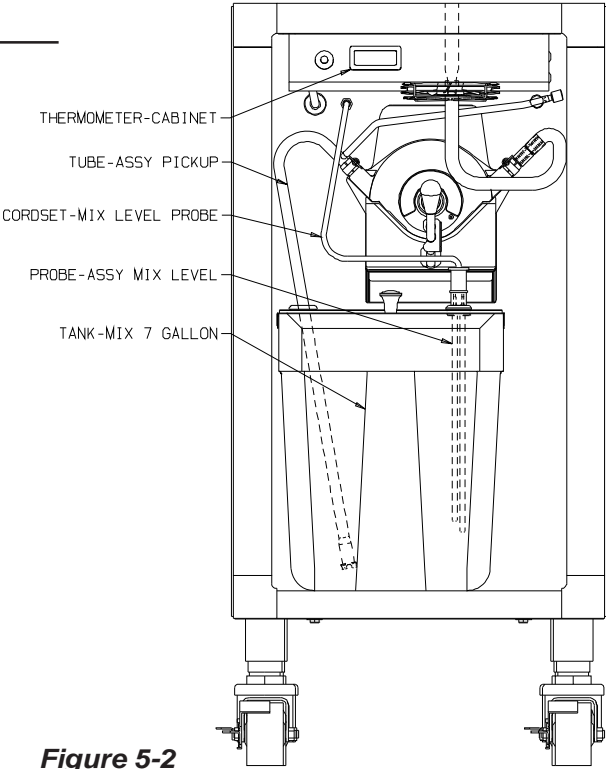

Figure 5-2
5.9 Probe — “ADD MIX” (See Figure 5-2)
5.10 Thermometer - Cabinet (See Figure 5-2)